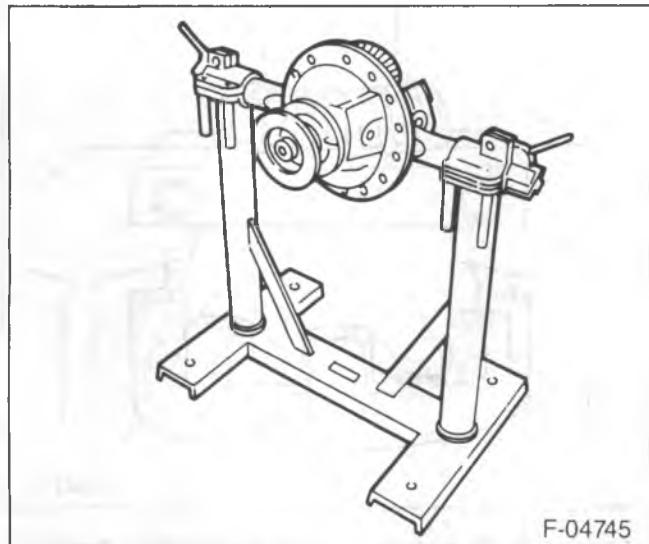

Figure 3—Carrier in the Repair Stand
- 2. Carrier to housing bolts (47) and washers (45).
- 3. Carrier (46) from the axle housing.
- Remove the two upper bolts (47).
- Place the carrier in a suitable holding fixture (figure 3).